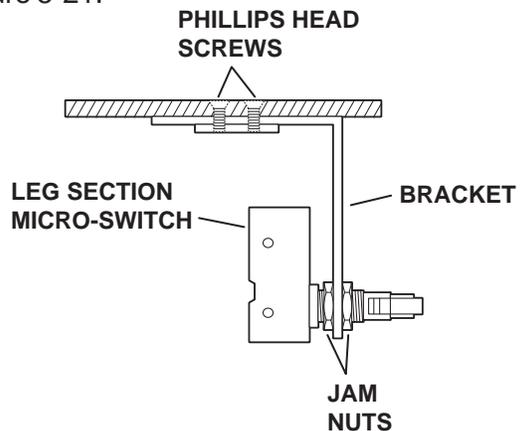

Figure 5-21. Leg Section Micro-Switch Adjustment.
3. To adjust the Leg Section switches remove seat section top, loosen the 2 phillips head screws securing bracket, adjust the switch, tighten the screws and replace the seat section top. See figure 5-21.